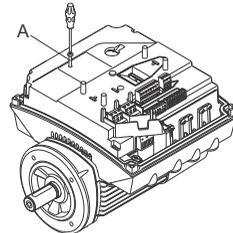

Fig. 75 Removing the securing screw
3. Remove the securing screw (fig. 75, A).
5. Fit and tighten the securing screw (fig. 75, A) to 1.3 Nm.